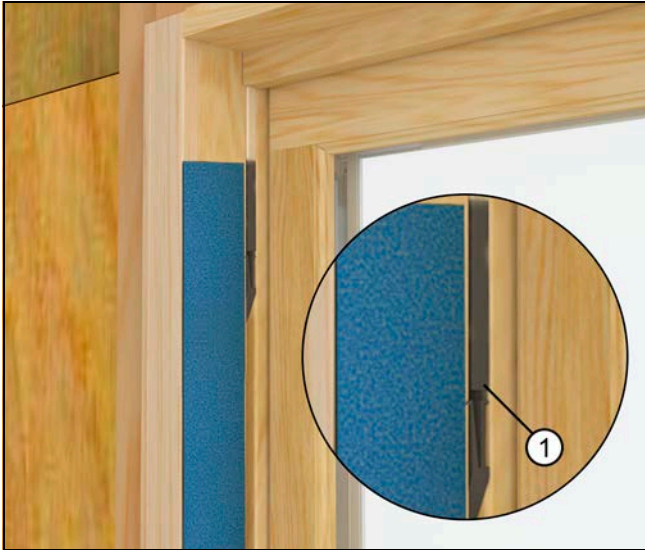

Figure 87
3. Install tilt tool into both wood jamb covers. Cover wood jamb covers and liners with painters tape or similar material near tilt tools to protect the frame. See Figure 87.